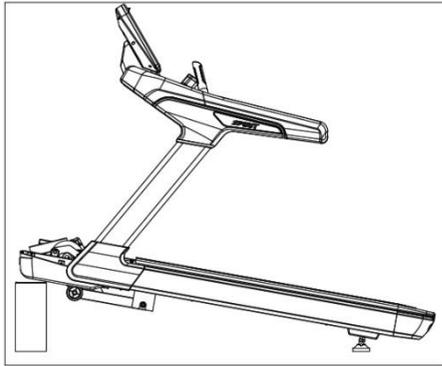
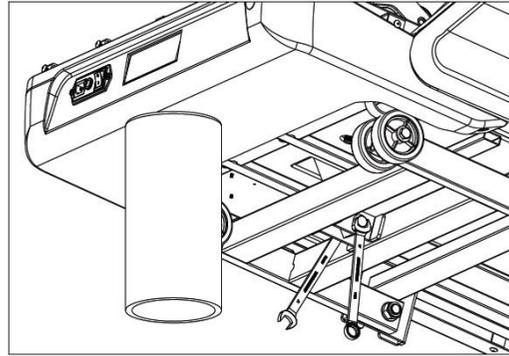
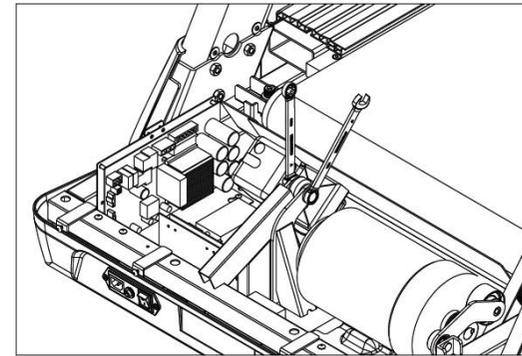

Figure 4.7.1
Figure 4.7.2
Figure 4.7.3
4.7.2 As shown in Figure 4.7.1, Figure 4.7.2, Figure 4.7.3, move the machine up on the paper tube, use the No. 17 opening wrench 2 to remove the lifting motor The screws that are fixed to the lifting frame , Use the No. 17 opening wrench 2 to remove the lifting motor fixed to the main frame of the screw and detachable motor, remove the need to be associated with the line removed.